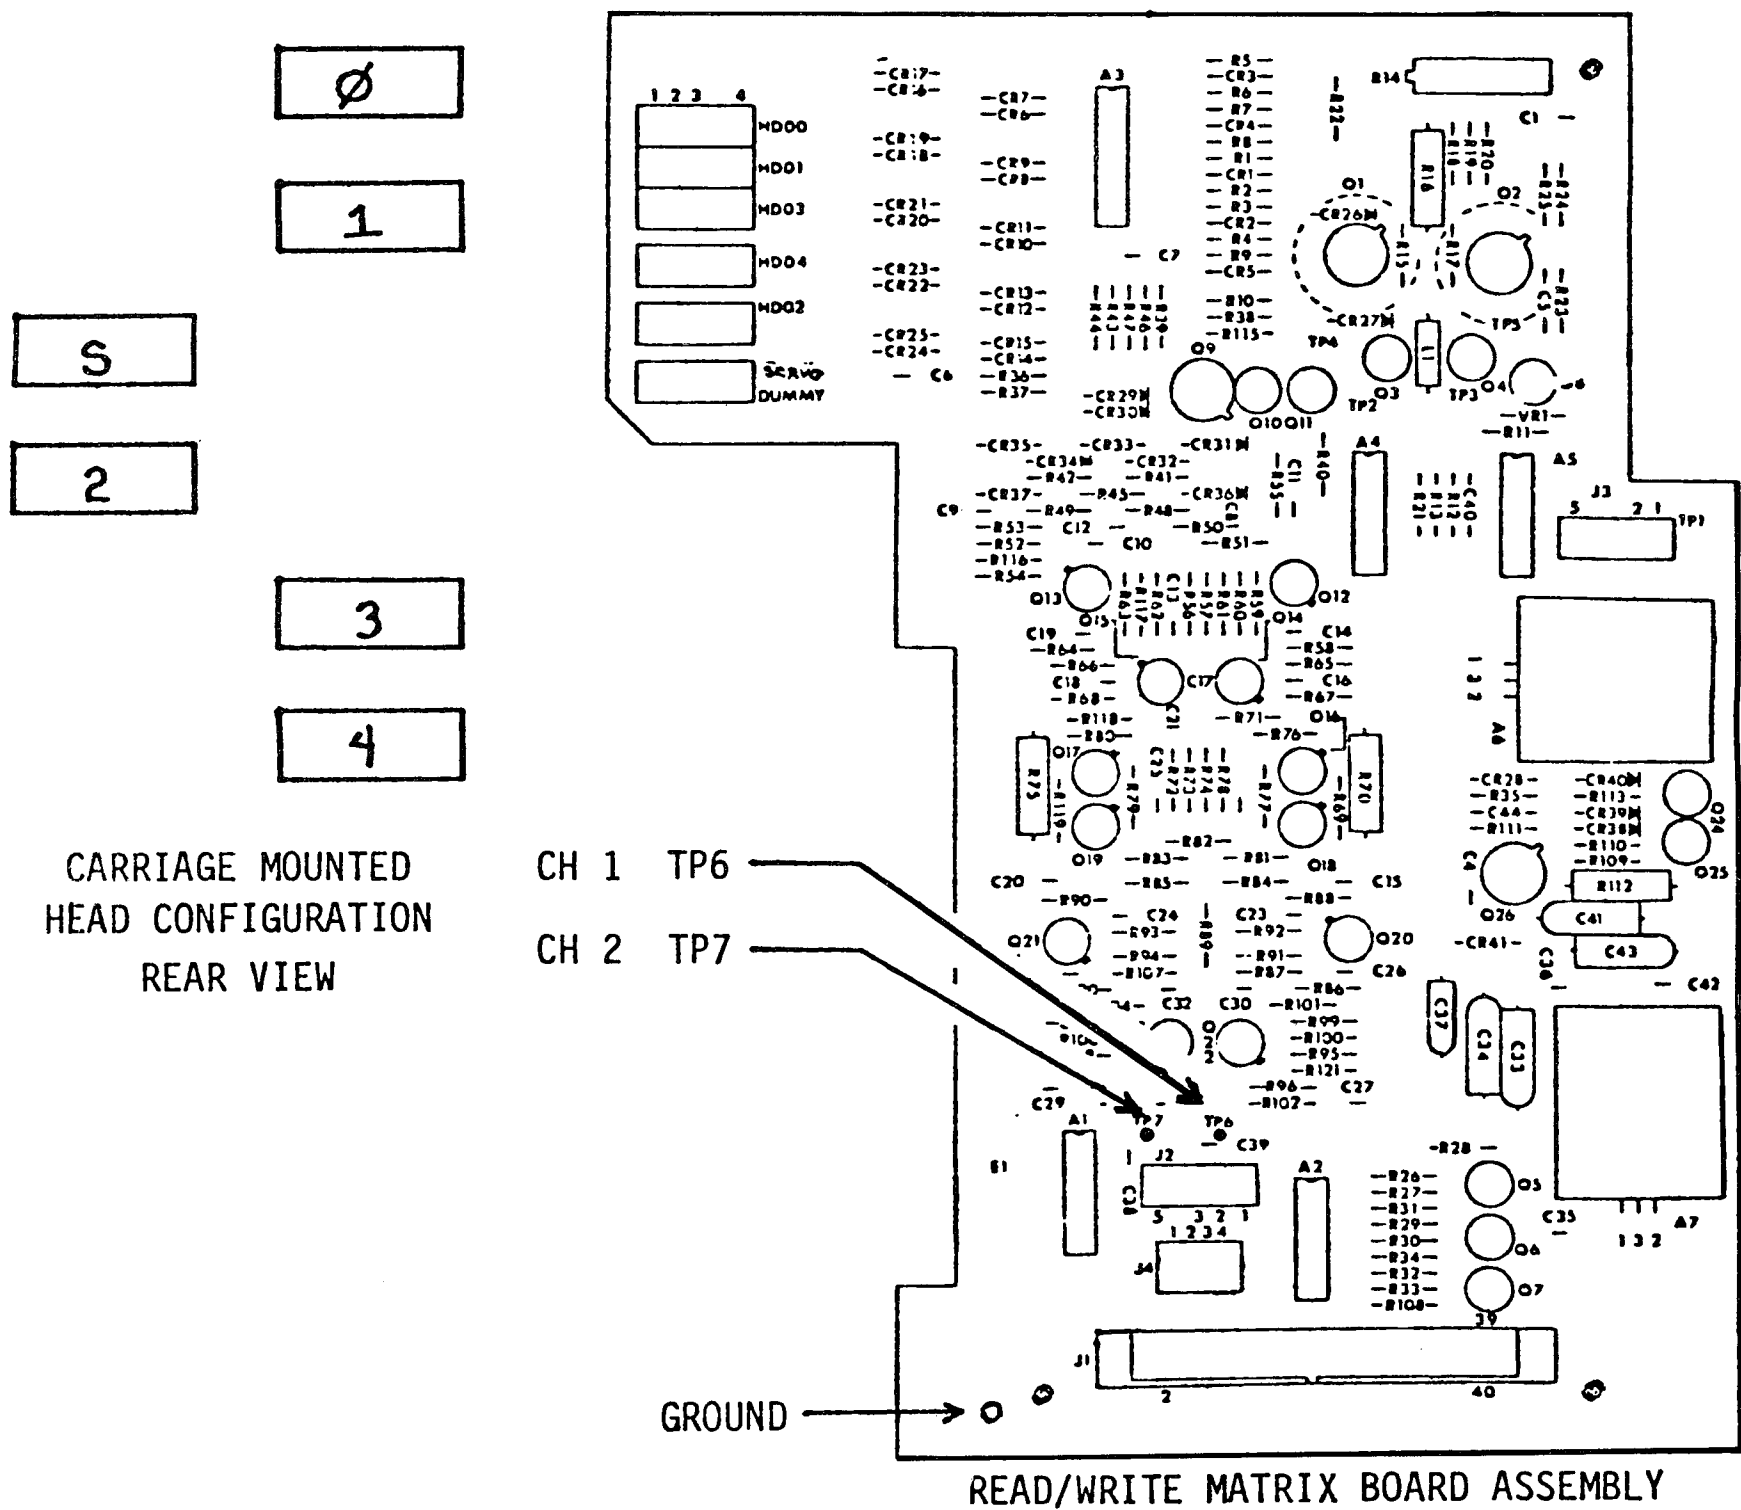
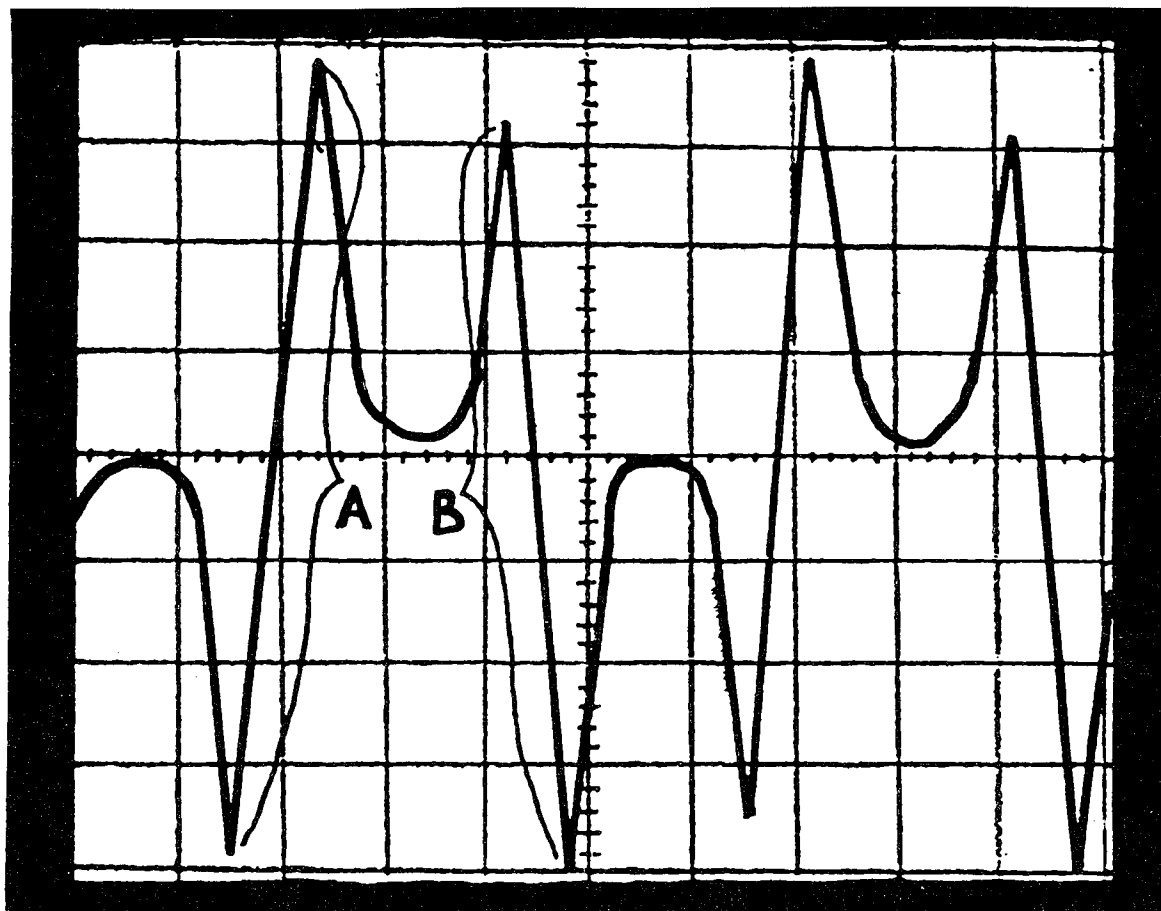

Figure 3-3. Read/Write Heads and Matrix Board Configuration
Figure 3-4. Ideal Dibit Pattern
9. Set up the oscilloscope as follows (see Figure 3-3).
10. The dibit pattern shown in Figure 3-4 should be displayed on the oscilloscope. Adjustment of the scope sync may be necessary to display a good trace for each head.
A comparison is made between amplitude arm A and B for equal amplitude (Figure 3-4). Alignment is accomplished when arm A and B are equal in amplitude.
12. Loosen the mounting screw for the head to be aligned and torque it to 20 inch-ounces (see Figure 3-3 for head location). Adjust the head (see Figure 3-4), equal amplitude of arms A and B. Torque the mounting screw to 80 inch-ounces and recheck alignment. Don't lean on the drive during alignment as this will cause the alignment to change slightly.